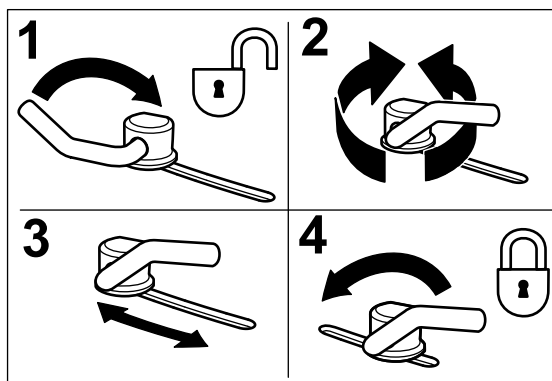

Figure 30
3. To adjust the cam locks, swing the lever up to loosen the cam lock (Figure 30).
5. Swing the lever back over to tighten the baffle and cam locks (Figure 30).